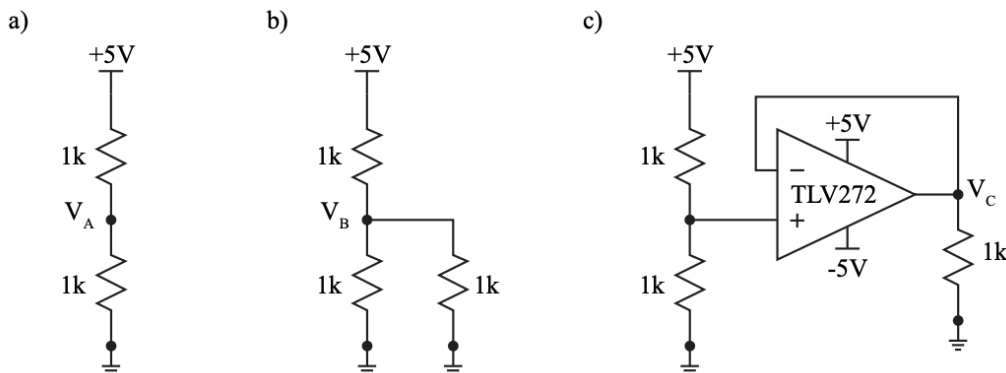

Figure 6.3: A simple voltage divider (a), voltage divider with a load (b), and a voltage divider with a voltage follower between the output and the load (c).
1. Simulate all three circuits in Figure 6.3 using a DC operating point (.op). Keep all the circuits on the same schematic and table the voltages V_A , V_B , and V_C . Table your values and include images of your circuits.